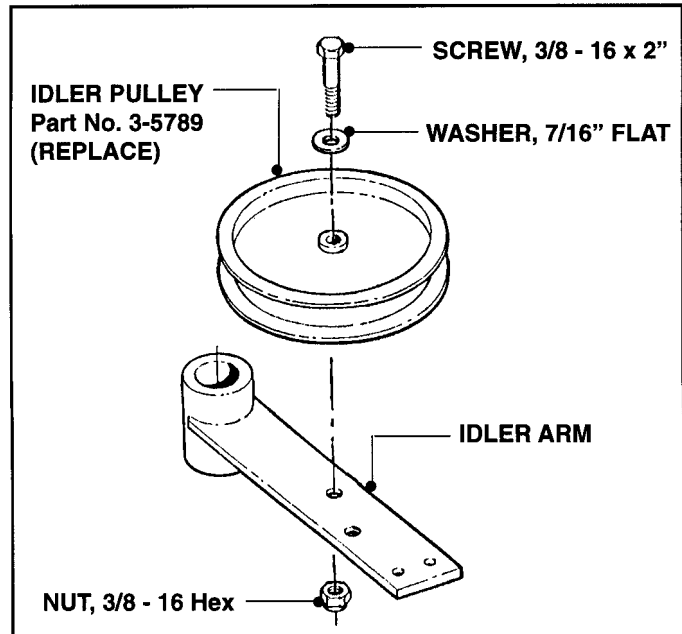

FIGURE 8.17
3. If the Idler Pulley spins freely, it is O.K. If it wobbles, or is difficult to turn, it must be replaced. See Figure 8.17.